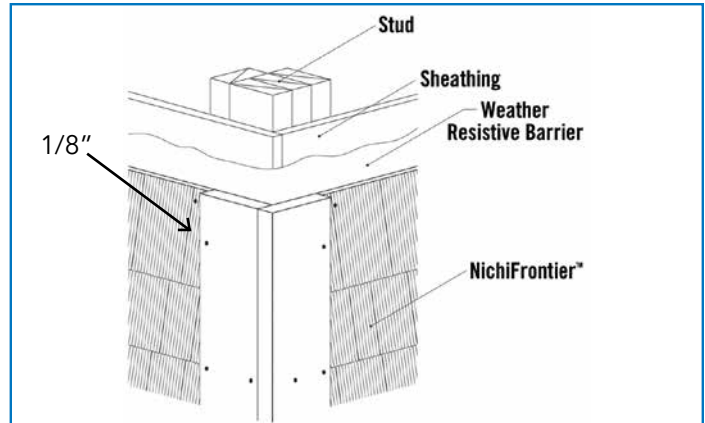

Fig. 11.1
- Where board ends and edges meet trim at inside and outside corners, door, window, and other trim attachments, leave a **minimum 1/8" gap** and caulk with a quality sealant that meets ASTM C-920 requirements. (Fig. 11.1)